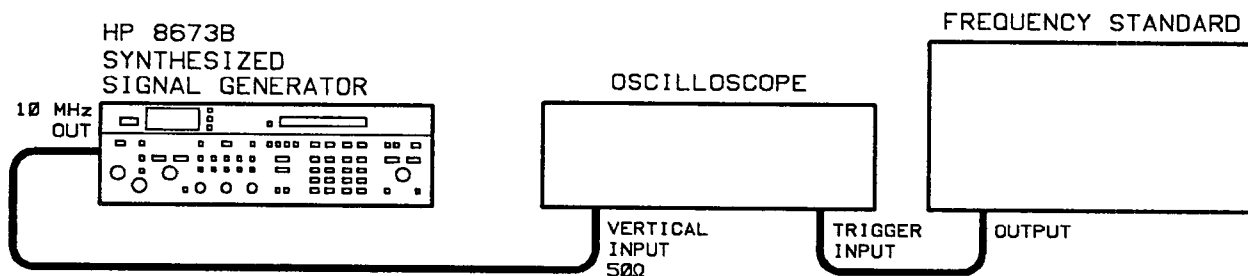

Figure 5-5. 10 MHz Reference Oscillator Adjustment Test Setup
2. Connect the equipment as shown in figure 5-5. Set vertical input of oscilloscope for  $50\Omega$  input impedance.